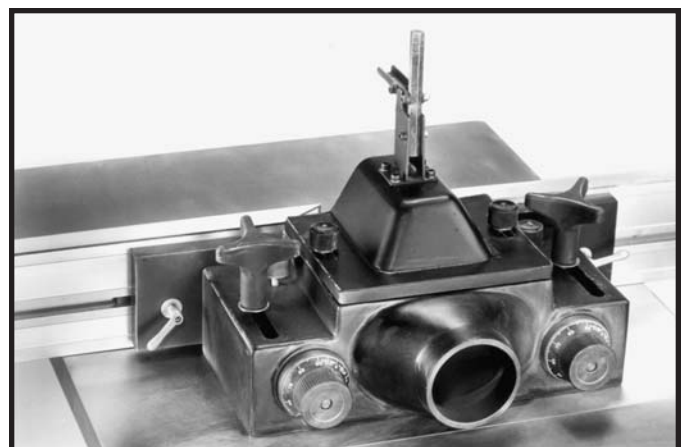

Fig. 23
9. Fig. 23, illustrates top cover properly assembled to the fence body.